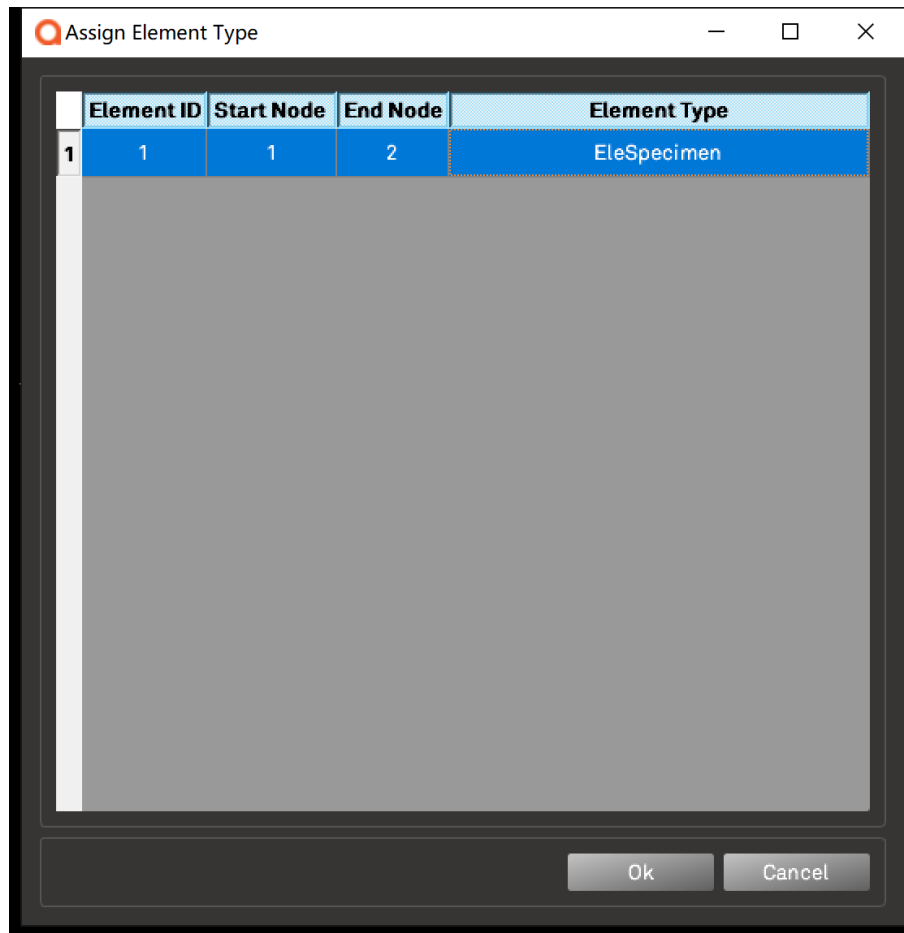

Figure 34 – Assign Experiment Element window
Step 3: Click "Assign" - Click "Element Assignment" - Assign Experiment type to element (as shown in Figure 34) – Click "OK"